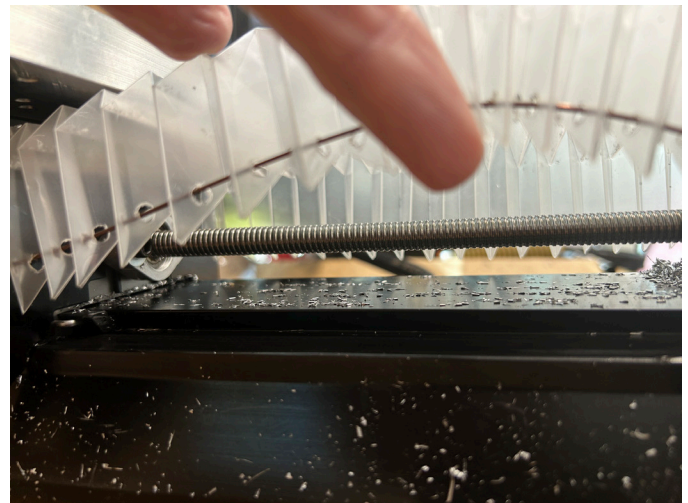

FIGURE 3—Mill Y-axis.
- iv. Y-axis: Lubricate the section under the Y-axis cover close to the saddle (see Figure 3).